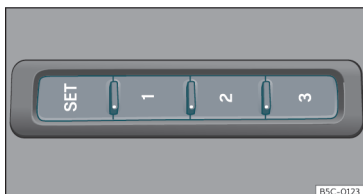

Fig. 106 On the outer side of the driver's seat: memory buttons.
»» **Fig. 106.**
- Press and hold the **SET** button»» **Fig. 106**.